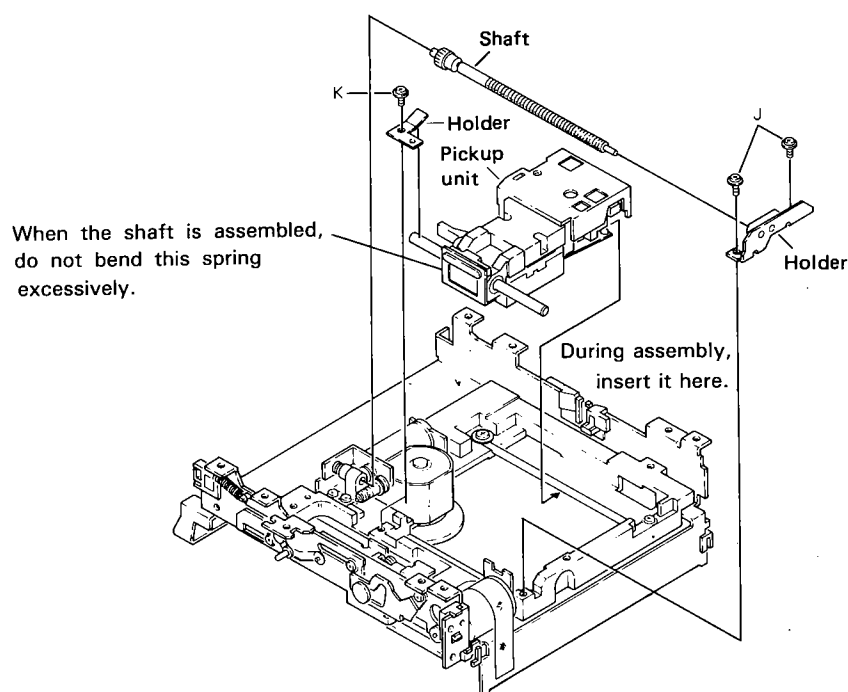

Fig. 25
1. Lower the pickup unit toward the back. (It can be shifted manually if shaft deviation is performed as shown in Fig. 25.)
### • Pickup Unit Removal (Fig. 25)